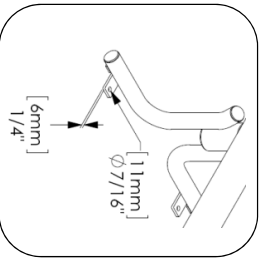
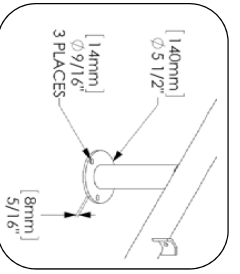
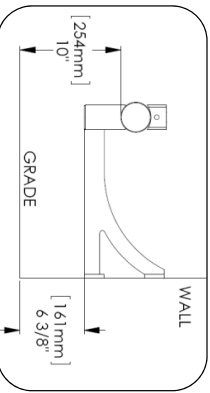

Fig. 5 – with anchor tabs
Fig. 6 – Surface Mount
Fig. 7 – Wall Mount Up for backed seats
2. Mark hole locations. See Fig. 5 for freestanding with anchor tab details. See Fig. 6 for surface mount plate details. See Figs. 7, 8 and 9 for wall mount details.